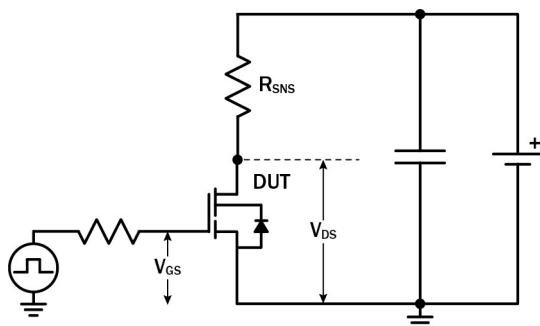

Figure 17. Dynamic $R_{DS(on)eff}$ Test Circuit
- a. Dynamic on-resistance; see Figures 17 and 18 for test circuit and conditions